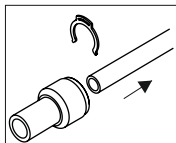

fig. 3
- 3) Remove the tubing (fig. 3).